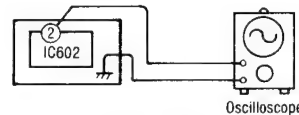

Fig. 25
1. Test equipment connection is shown in fig. 25.